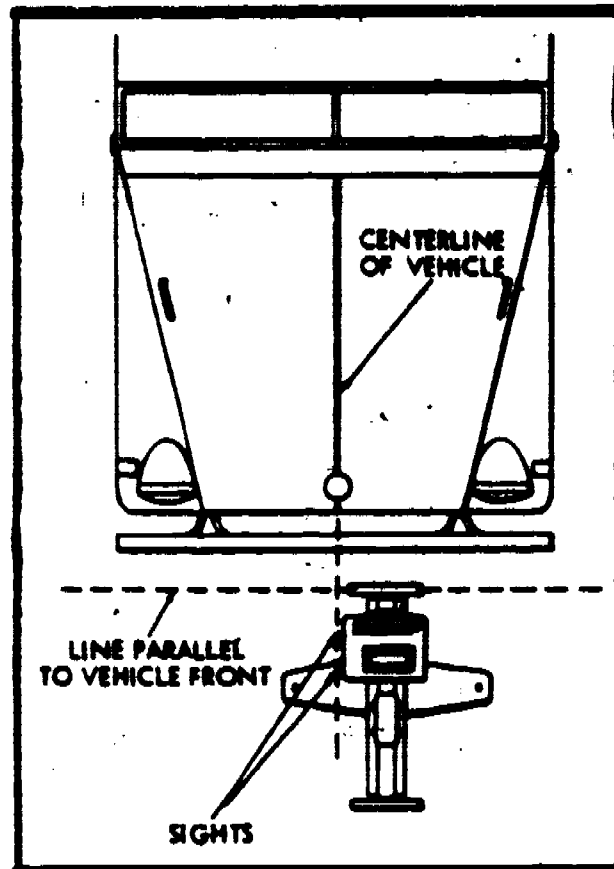

Figure 18. Aligning Tester With Vehicle Centerline.
- a. Square tester with vehicle, figure 18.
(1) Roll the tester from in front of one headlight to in front of the other to make certain that it travels a straight line parallel to the front of the vehicle.